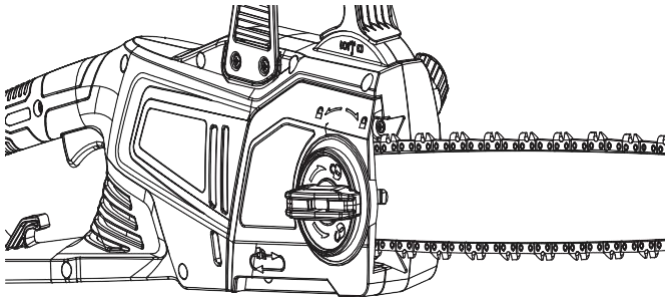

Fig. 21
2. Rotate the bar adjust locking knob counterclockwise (Fig. 21) to remove the cover from the saw's body.